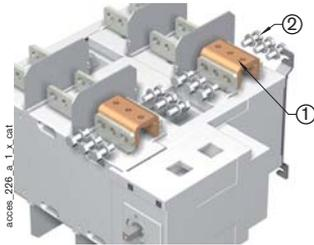
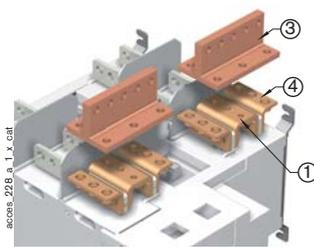

Fig.1
Fig.2
- connection between the two power terminals from a same pole for 2000 to 3200 A ratings (Fig. 1 and Fig 2)
Top or bottom flat connection - Fig. 1
Top or bottom edgewise connection - Fig. 2